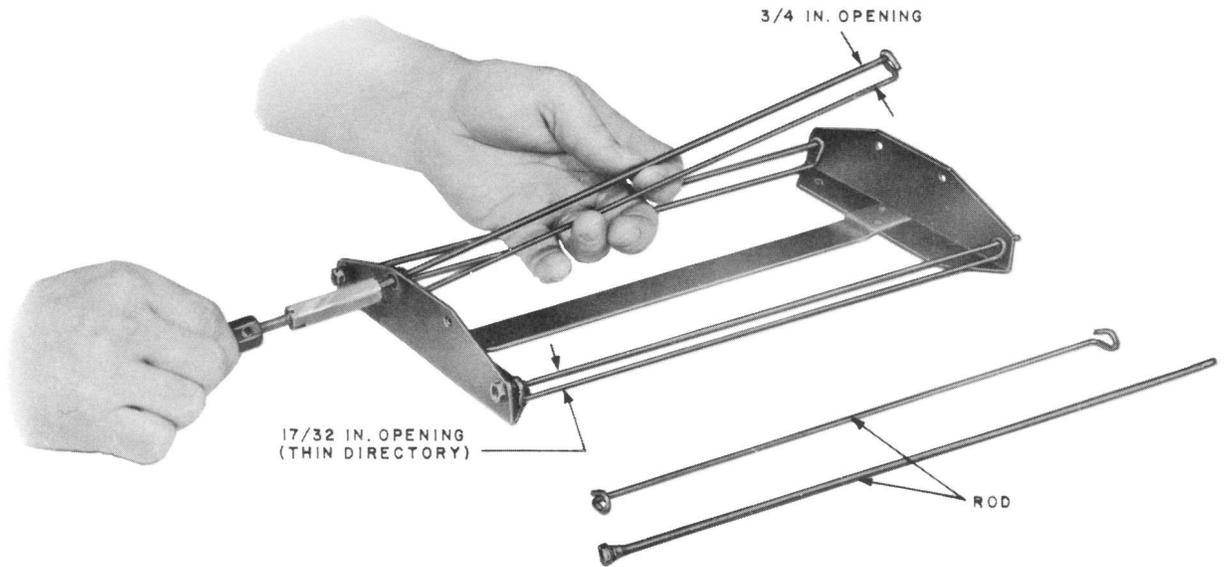

Fig. 10 — Removing Rod
3.04 Insert directory in fastener as illustrated in Fig. 10, 11, and 12.